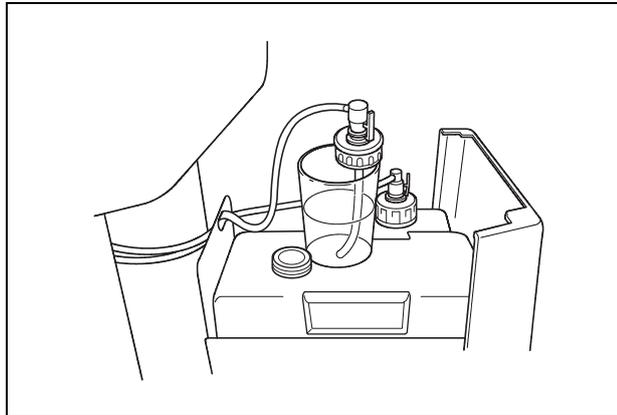

Figure 7.101
9. Put the cap in the container filled with the sterile water (see Figure 7.101).
13. Put the detached cap in the container of the 70% ethyl alcohol or isopropyl alcohol (see Figure 7.101).